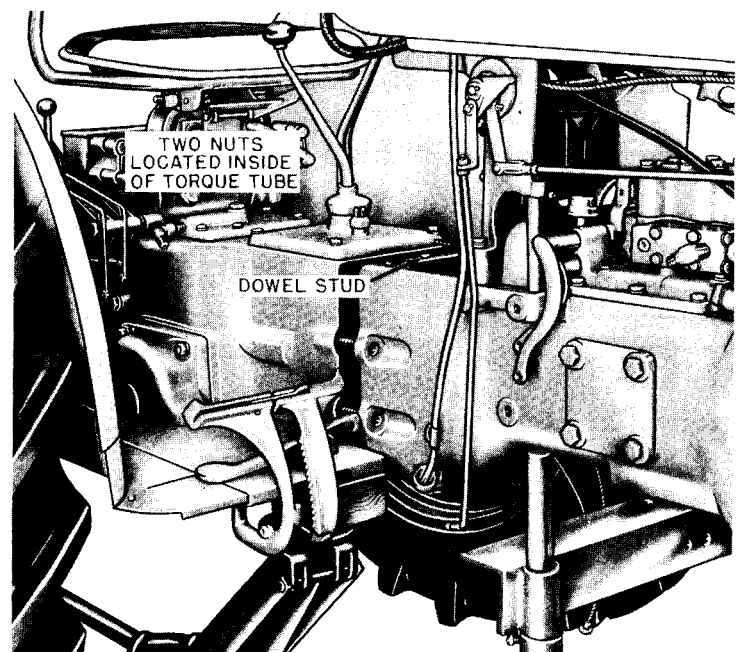

Fig. A-16 Assembling Transmission to Torque Tube - Right Hand View
19. Remove 1/2" nuts from studs securing transmission to torque tube. Two of the studs are located inside the torque tube case, just below the top edge. Fig. A-16.
3. After the transmission is assembled to torque tube, install the lock washers and nuts holding the torque tube and transmission together. Be sure to install the two nuts and lockwashers inside of the torque tube. Studs are mentioned in Fig. A-16. Tighten nuts 70 to 80 ft. lbs. torque. Be sure tail light wire clip is attached to the stud shown in Fig. A-20, page A-19.